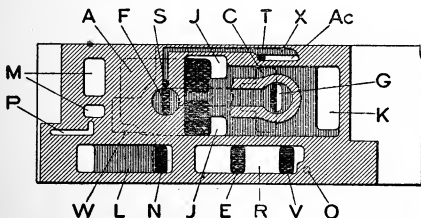

Fig. 19.—First Graduating Notch.
**Service Application Position** (Figs. 19 and 20). This position is for the purpose of gradually applying the brakes and is divided into five graduating positions designated by notches on the quadrant. The reductions obtained in the different notches are respectively, 5, 8, 11, 15 and 23 pounds. The amount of the initial reduction should always be governed by the length of the train, speed, grade, etc. Always place the handle of the brake valve in the notch which will give the required reduction. When the handle of the brake valve is moved to the first graduating notch the slide valve is in the position shown. Port O is closed to prevent the escape of chamber D pressure. Port F is moved back of the graduating valve EV 317 and port G registers with the exhaust port C. Brake pipe air now flows to the atmosphere. It also flows through port S, passage X and port T to the accelerator reservoir, building up a pressure to operate the accelerator valve. As soon as the pressure in the brake pipe reduces, the pressure in chamber D, being now greater than brake pipe pressure, it begins to expand to equalize with the brake pipe pressure. In